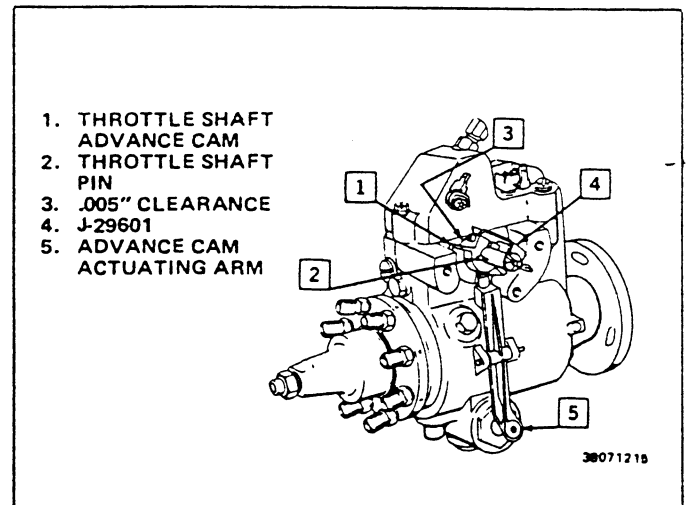

Fig. 6C5-33 Injection Pump Tool J-29601 Installed
5. Install Tool J-29601 over the throttle shaft with slots of tool engaging pin. Put the spring clip of the tool over the throttle shaft advance cam and tighten the wing nut. Without loosening the wing nut, pull the tool off the shaft. (This provides the proper alignment on reassembly.) Fig. 6C5-33.
7. Clean the injection pump cover, upper portion of the pump, the throttle shaft and the guide stud area (Fig. 6C5-31). Place several rags in the engine valley to catch fuel.